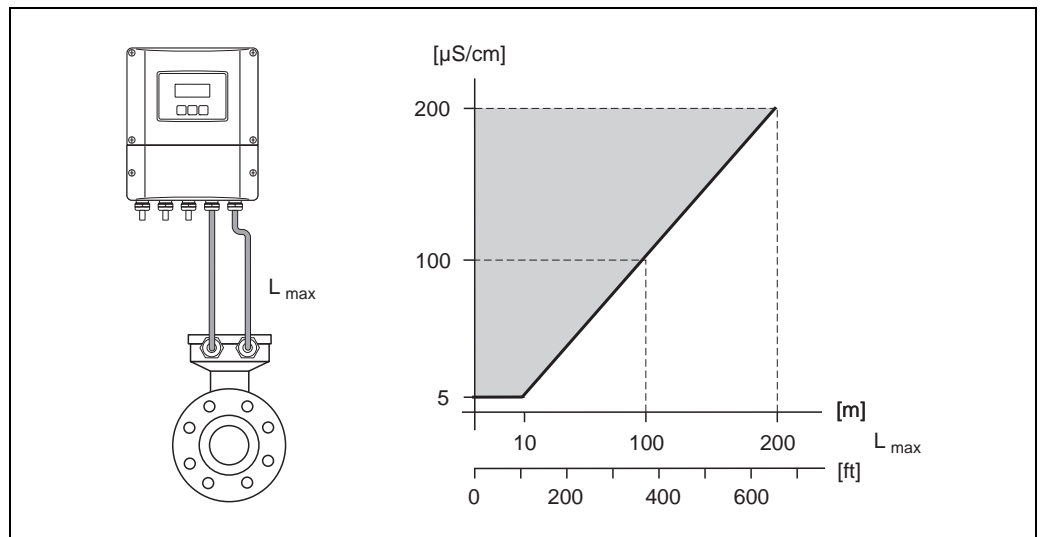

Fig. 17: Permissible cable length for the remote version
- The permissible length of the connecting cable L_{max} depends on the fluid conductivity (→ Fig. 17). A minimum conductivity of $20 \mu\text{S}/\text{cm}$ is required for measuring demineralized water. Most liquids can be measured as of a minimum conductivity of $5 \mu\text{S}/\text{cm}$.